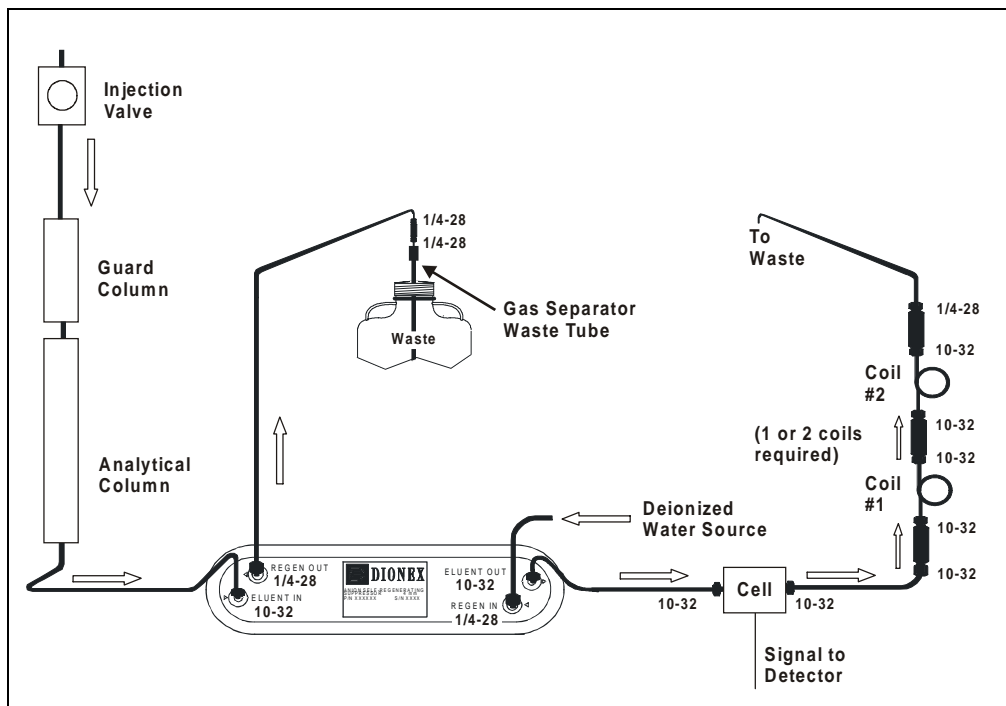

Figure B-5. AutoSuppression Mode, External Regenerant (SRS Connections)
- AutoSuppression with External Regenerant mode (suppressor required), shown in Figure B-5. Also plumb the system in this way for the AutoSuppression Chemical Suppressor and MMS Pressurized Regen System configurations.